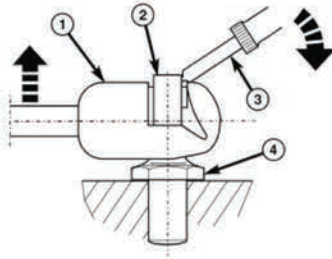

Fig 2
- e. Using a small pick or screwdriver, pry out on the metal spring clip shown in **Fig 2** Labeled (2). Pull the air spring head (1) away from the ball stud (4) while the spring clip is pulled away. Disconnect the air spring from the bracket only, leave attached to frame rail. Rotate forward out of the way.